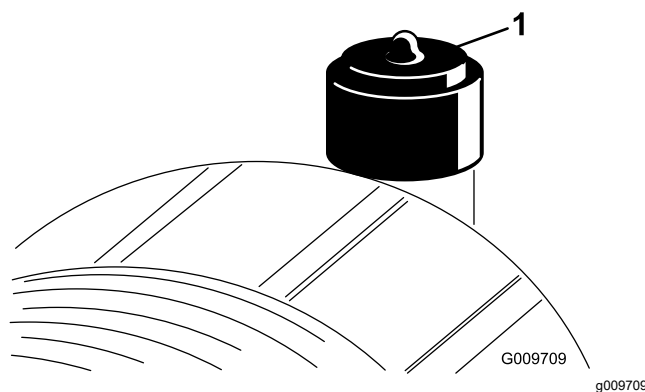

Figure 74
Service the air-cleaner filter only when the service indicator (Figure 74) requires it. Changing the air filter before it is necessary only increases the chance of dirt entering the engine when the filter is removed.
9. Reset the indicator (Figure 74) if it shows red.